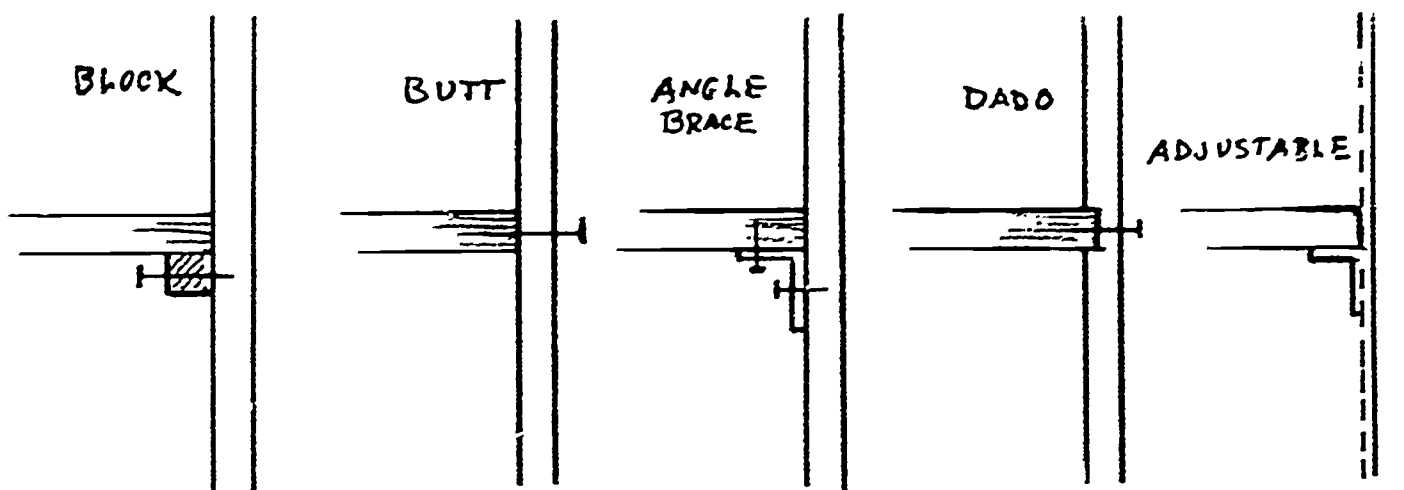

FIG. 229
10. Shelves may be supported in various ways. See figure 229.